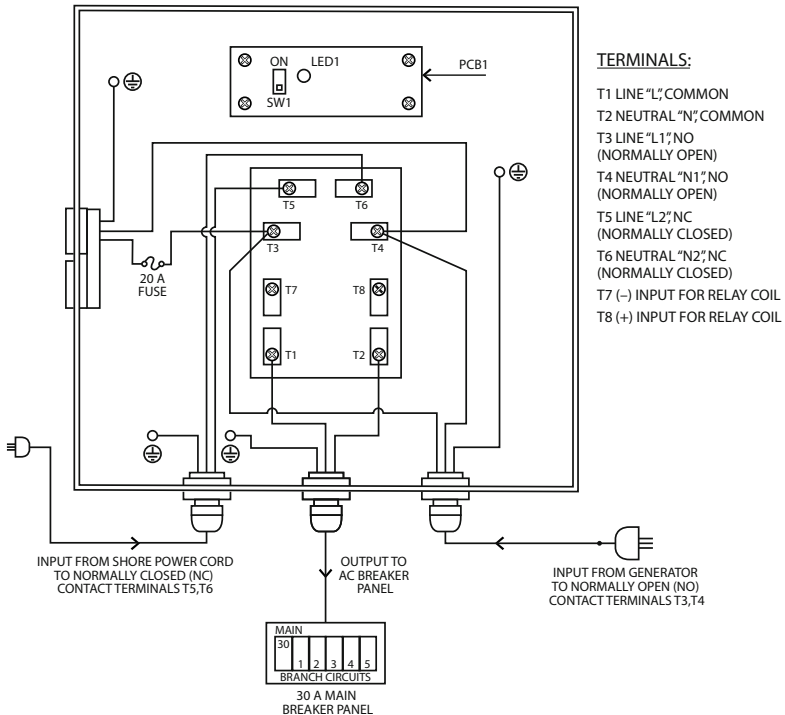

Fig. 5 Typical Generator / Power Cord
- a. Switch ON the AC input power from Utility/Shore Power Cord (RV). As the time delay has been disabled (As explained above, if the primary source is electric utility / shore power cord, the time delay should be disabled by changing the position of the DIP Switch SW1 to ON position), the relay coil will energize as soon as AC input is switched ON. The Green LED 1 will light up indicating that the relay has energized. If the main panel circuit breakers are switched ON, the AC loads should operate normally. The external battery charger will start charging the batteries.
- c. Switch OFF the AC input power from Utility/Shore Power Cord (RV). The relay will immediately de-energize and the AC loads will be transferred to the inverter.
SWITCHING BETWEEN UTILITY/SHORE POWER CORD (RV) AND GENERATOR (FIG 5)
TESTING OF THE OPERATION (FIG 5)